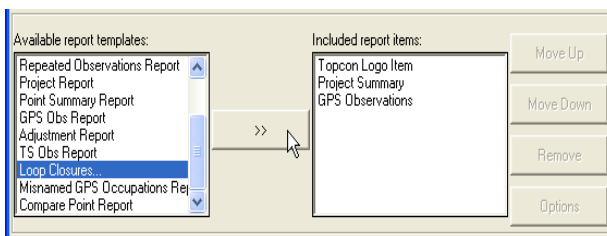

Figure 7-40. Include Items in Report
2. Select the desired item in the *Available report templates* list and click the move right button (>>) to move the item to the *Included report items* list. Continue selecting and moving items until all desired items are included (Figure 7-40).